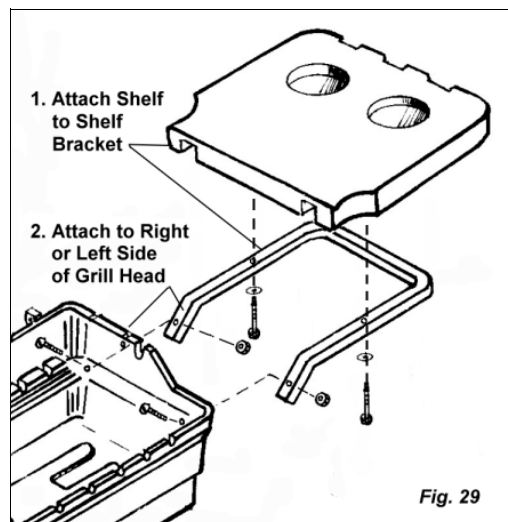

Fig. 29
Step 3: Attaching the Side Shelf (Fig. 29)
1. Turn NuStone Shelf upside down, noting the hole location of the (2) **Brass Treated Inserts**.